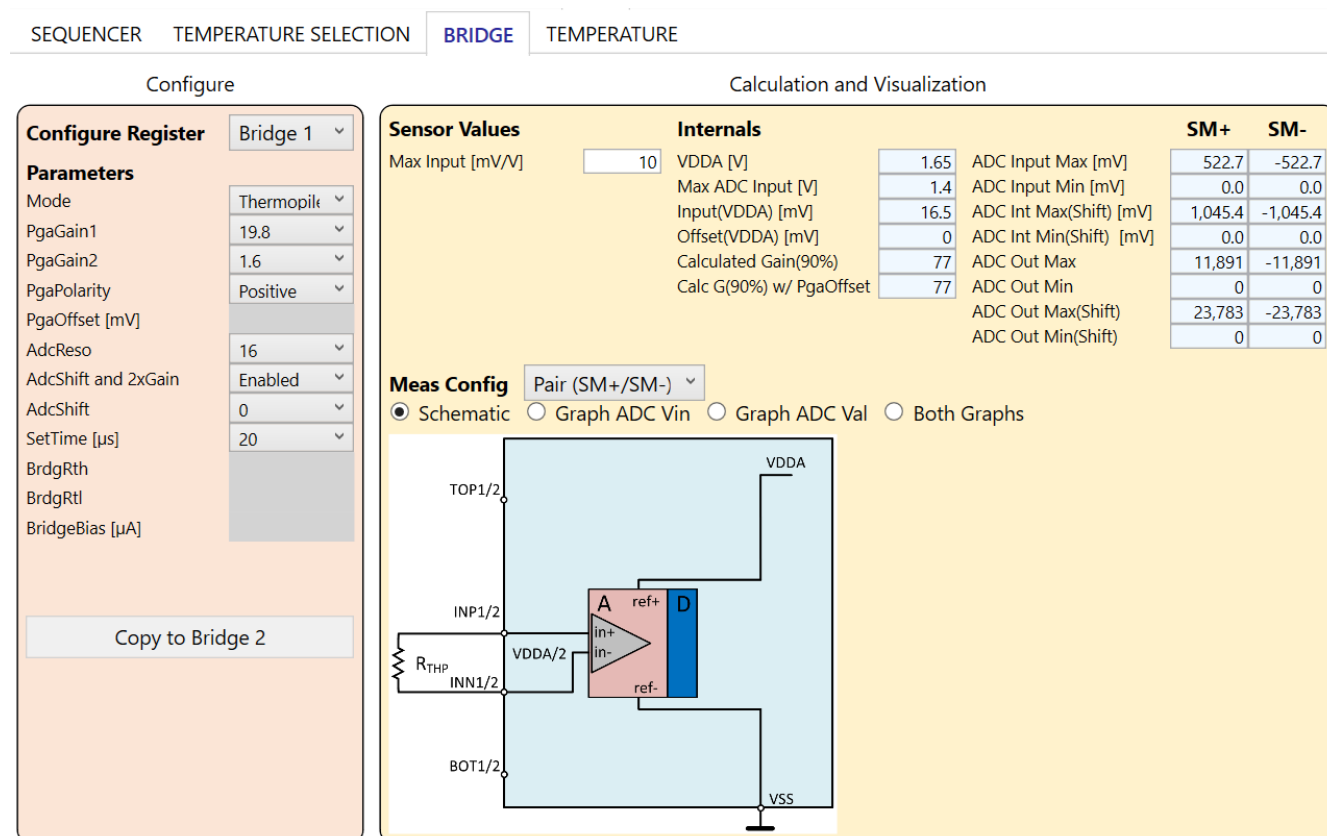

Figure 68. Thermopile Mode
- Thermopile: the device acquires the voltage signal generated by a thermopile, see Figure 68.